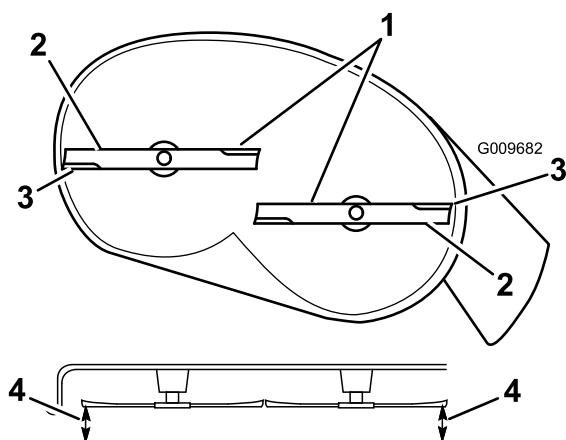
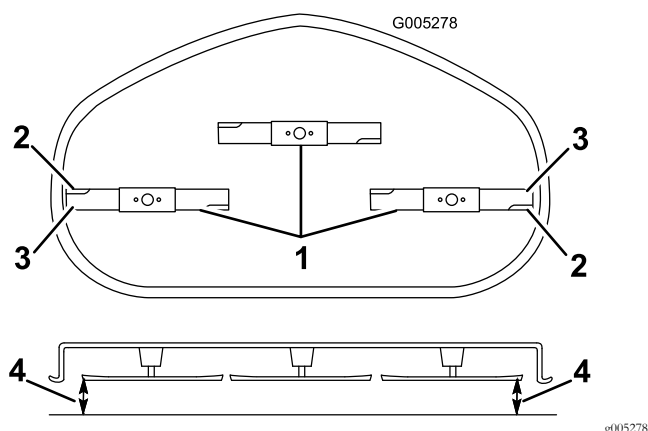

Figure 64
Figure 65
4. Carefully rotate the blades so that they are all side to side (Figure 64 and Figure 65).
5. Measure between the outside cutting edges and the flat surface (Figure 64 and Figure 65).